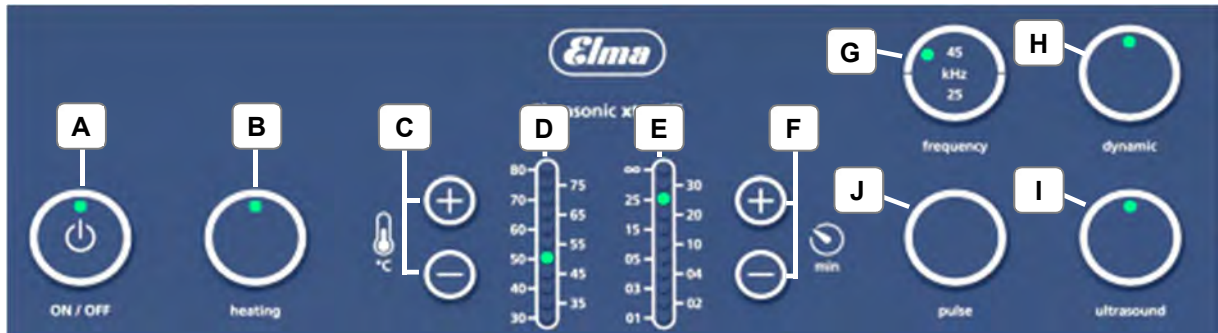

Fig. 4.12 Operating panel
1. Press the key *on/off* (Fig. 4.12.A), the green LED in the key is lighted.
3. Set the required cleaning temperature by pressing the +/- keys (Fig. 4.12.C), the LED indicating the set temperature is lighted. The heating process is started and the actual temperature is indicated by the flashing LED (Fig. 4.12.D).